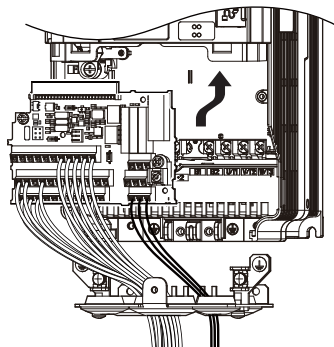

Figure 6.45 Installing the Terminal Board
1. After wiring the main circuit, connect the terminal block to the converter as shown in **Figure 6.45**. Use the installation screw to fasten the terminal block into place.